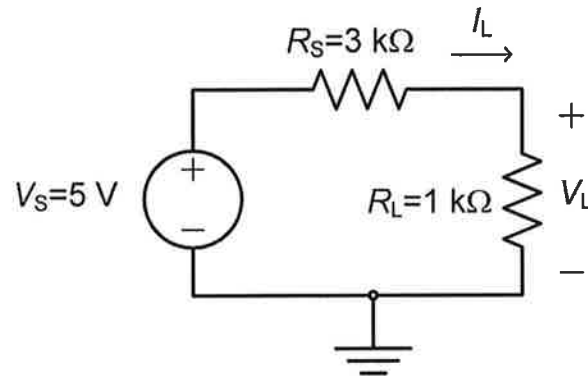

Figure 3. A circuit with a fixed load resistance having a value  $R_L = 1\text{ k}\Omega$ .
**Pre-lab Assignment 3:** In Fig. 3, assume that the load resistance  $R_L$  has a fixed value given by  $R_L=1\text{ k}\Omega$ .
Table 4. Measured values of  $V_L$  and  $I_L$ , and calculated values of  $P_L$  in the circuit shown in Figure 3.